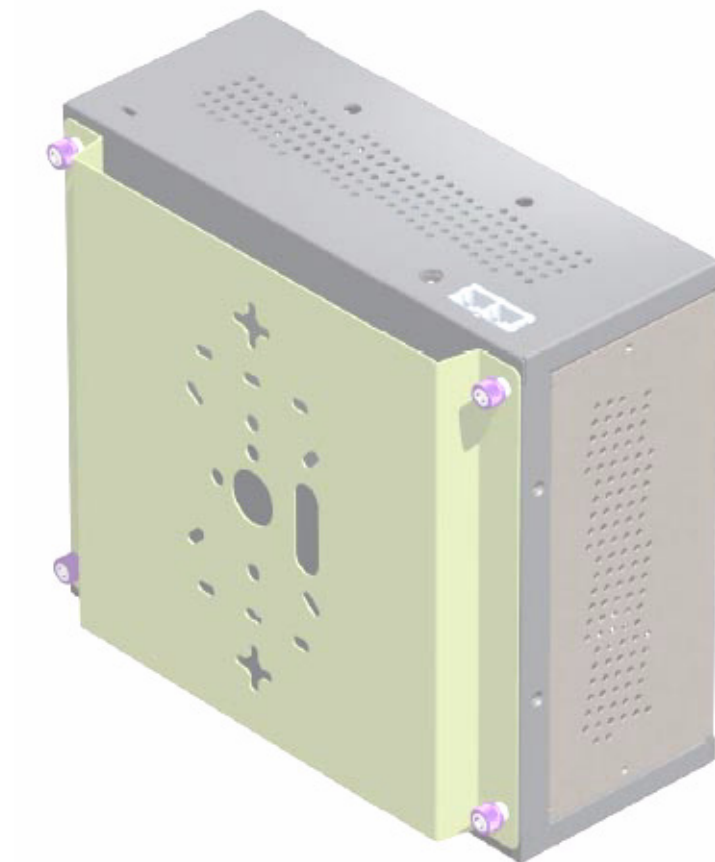

Figure 2: Bracket Attached to RS4000
1. Remove the bracket from back side the RS4000 if it is attached by unscrewing each of the 4 knurled thumbscrews (see Figure 2).